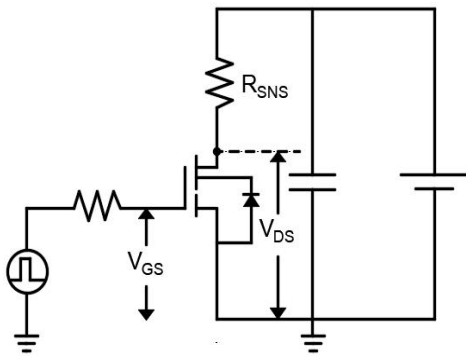

Figure 18. Dynamic $R_{DS(on)}$ Test Circuit
- a. Dynamic on-resistance; see Fig. 18 and 19 for test circuit and conditions